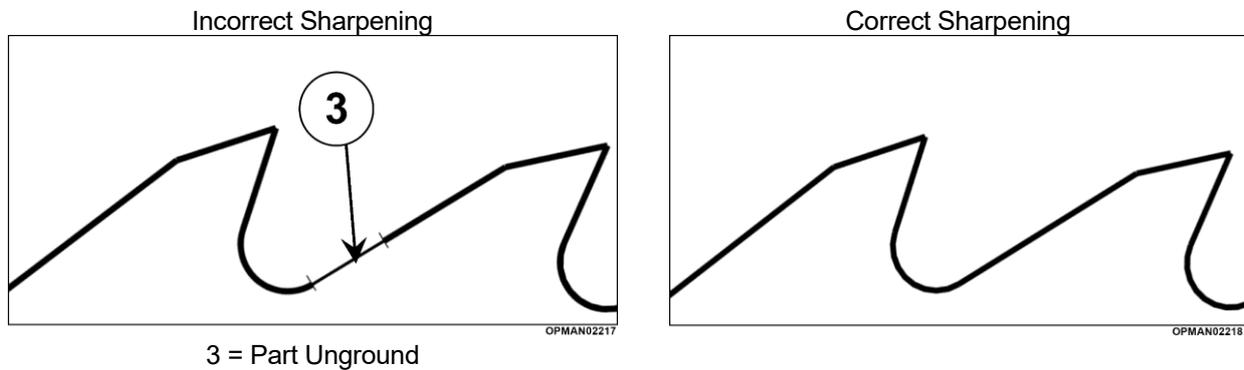

Figure 26
Stellite tipped saw blades come pre-sharpened, so it is recommended to work them for less time the first time the machine is used, before complete reshaping and sharpening through light runs. The cracks at the bottom of teeth are often caused by an incomplete profiling operation, with the grinding wheel not eliminating traces of metal fatigue at the bottom of teeth; see Figure 26 (3).